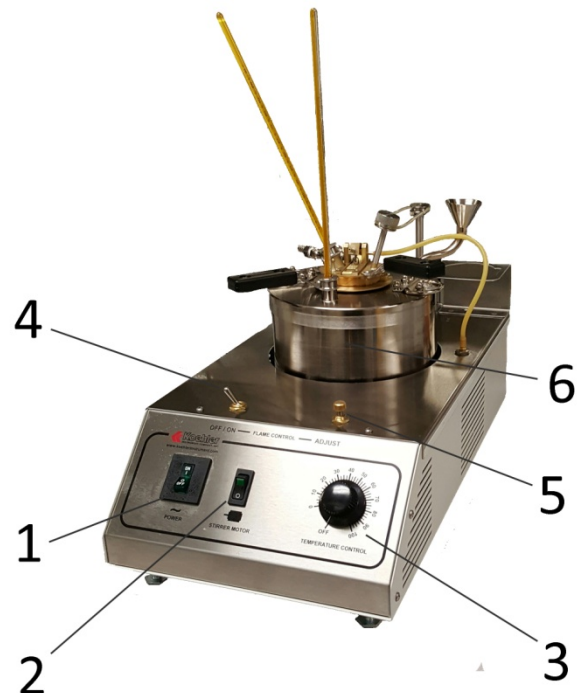
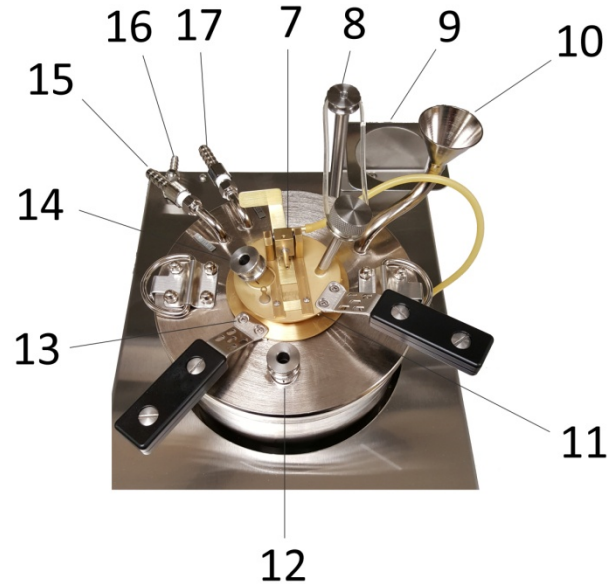

Figure 1: Instrument Descriptions\_Front
Figure 2: Instrument Descriptions\_Top
**NOTE:** Be sure Flame Control Switch (Figure 1, Item 3) is in the OFF position when Test Flame Applicator is not in use.
- 6. Test Area and Heating / Cooling Bath.** See Figure 2 for detailed descriptions.
2. Place the IP 75C Thermometer in the reservoir Thermometer Port (**Figure 2, Item 12**).
3. Using the Funnel (**Figure 2, Item 10**) fill the reservoir with water or, for less than or near 0 °C bath temperatures, use a mixtures of equal volumes of ethanediol and water, or glycerol and water, or silicone oil, or other suitable liquids, to completely fill the reservoir and to fill the inner air chamber that surrounds the test cup to a depth of at least 38 mm.
4. Adjust the temperature of the heating vessel using an external cooling bath or re-circulating chiller if required, to at least 9 °C below the expected flash or to -35 °C , whichever is higher. The external circulator can be connected to the Inlet / Outlet Ports on the Reservoir (**Figure 2, Items 15 & 17**).
5. Pour the sample in the test cup (**Figure 2, Item 13**) and place the test cup in position in the reservoir. Turn the test cup to lock it in its secure test position.
6. Place the cover assembly (**Figure 2, Item 11**) on the test cup and push it down into position.
7. Connect the clear belt from the Motor Rod (**Figure 2, Item 8**) to the Stirrer Shaft on the cover assembly
8. Place the IP 74C Thermometer in the test cup Thermometer Port (**Figure 2, Item 14**).
9. Connect the gas source to the Gas Inlet Port (**Figure 2, Item 16**) at the back of the unit and ensure that the gas tubing from side of the test flame dip applicator (**Figure 2, Item 7**) is properly connected to the gas outlet at right side of instrument.
10. Press the Flame Control On/Off switch (**Figure 1, Item 4**) to the ON position.
11. Light Test Flame Dip Applicator (**Figure 2, Item 7**) using external heat source.
12. Use a test flame approximately 5/23 of an inch in diameter, the same size as the test flame guide located on the cover assembly (**Figure 2, Item 11**). Turn the gas adjustment valve (**Figure 1, Item 5**) if needed, until the flame compares to the flame guide.
13. Press Power Switch (**Figure 1, Item 1**) to the ON position.
14. Turn Temperature Control Dial (**Figure 1, Item 3**) clockwise and apply heat to the vessel in such a manner that the temperature of the test sample in the test cup rises at a rate of approximately 1 °C/min from the first
15. Press the Stirrer Motor Switch (**Figure 1, Item 2**) to the ON position.
16. When the test specimen temperature is approximately 9 °C below the expected flash point or -35 °C, whichever is the higher, apply the ignition source by slowly and uniformly opening the slide (**Figure 2, Item 7**) over a period of approximately 2 seconds and then closing it over a period of approximately 1 second.